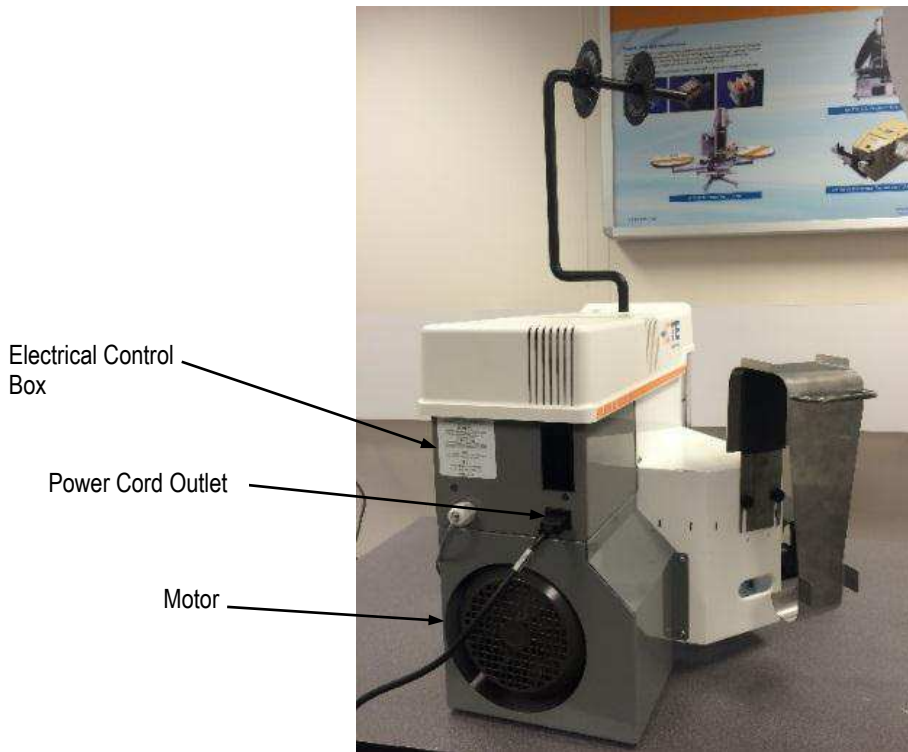

Figure 7
1. The **motor group** includes an AC motor which drives a crankshaft. See Figure 7 and Figure 8. The motor is activated each cycle and rotates the crankshaft one full revolution. A nut on the crankshaft allows the motor and crankshaft to be cycled manually. The nut is accessed via an interlocked panel in the top cover.